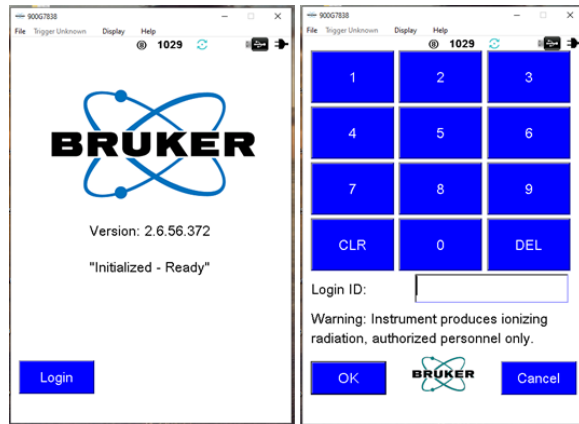

Figure 4. Login screen in Bruker Remote Control
5. A login window will appear on the screen, login using the info on top of the computer keyboard (Figure 4).